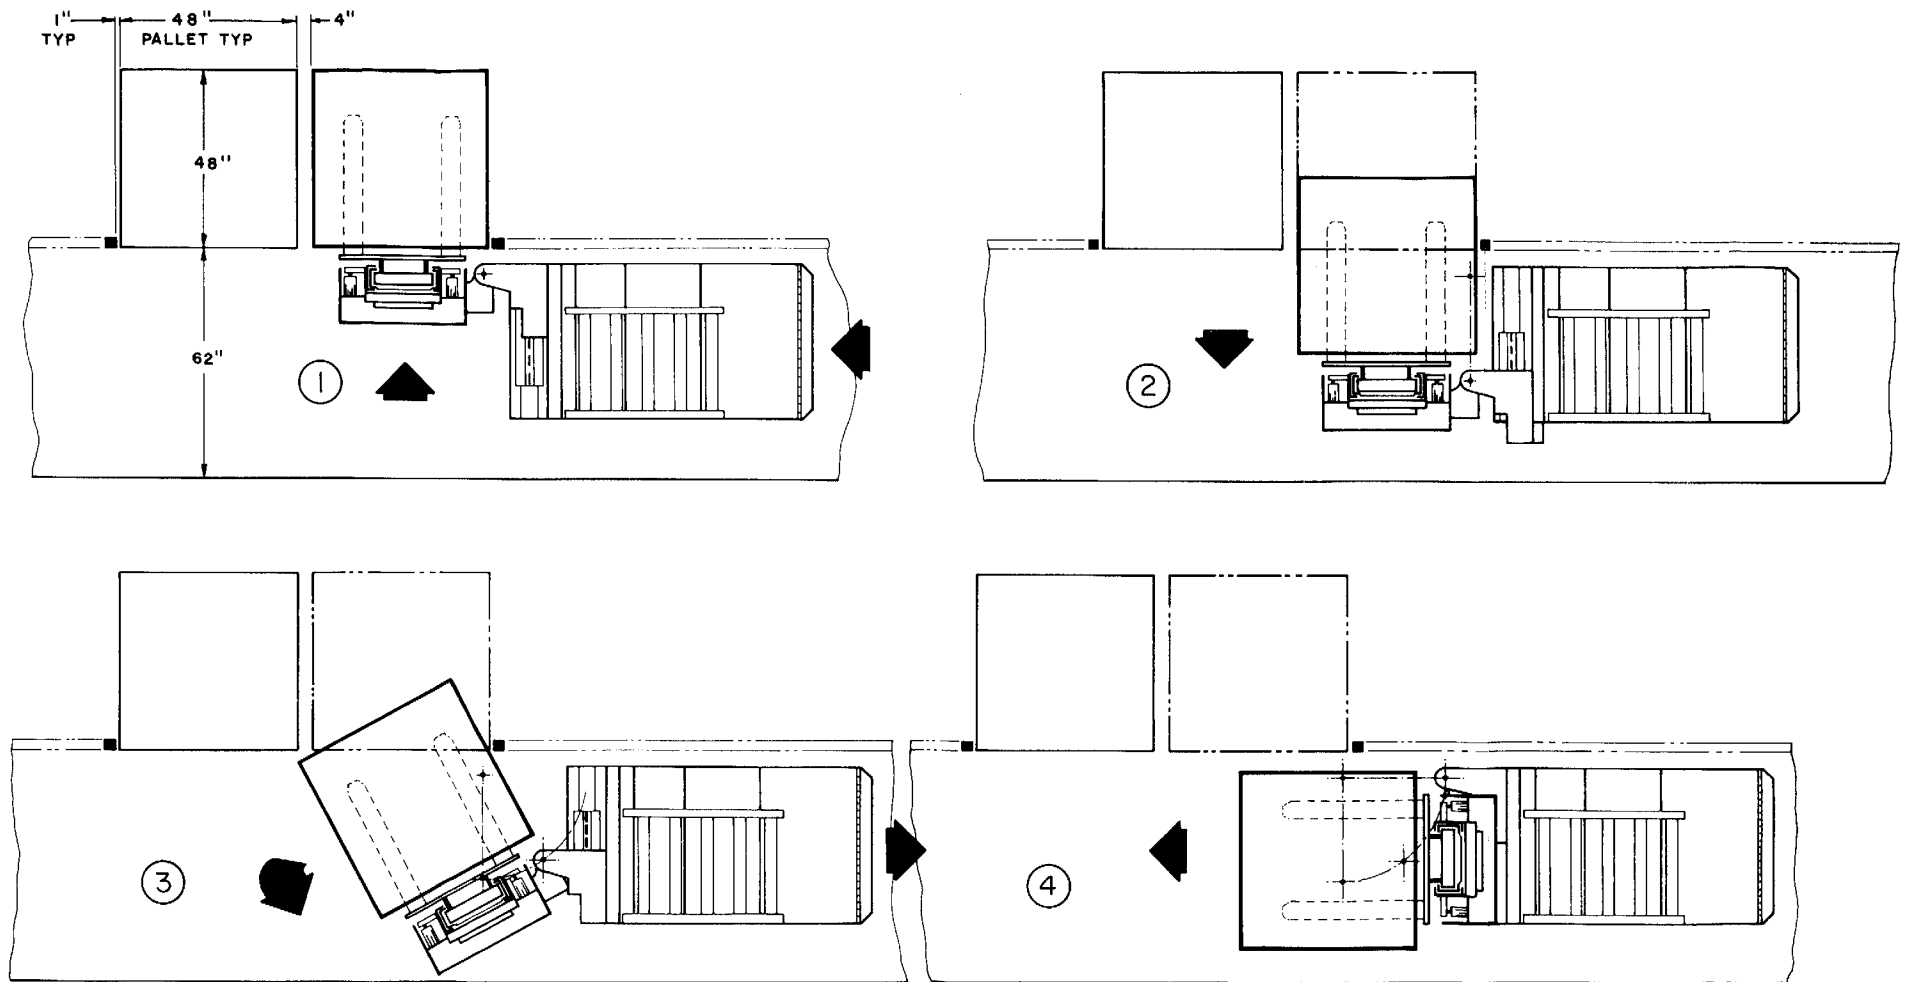

Figure 1-17.
8. LOAD RETRIEVAL: Once the forks are in the pallet, raise the load approximately 2 inches (rearward mast tilt may be used here) to clear the rack horizontal members. Start to shift the loaded mast to the left with the truck traveling in reverse at a creep (slow) speed, utilizing all of the left hand shift motion. The load face nearest the operator should be very close to the vertical rack member in view of the operator, with the truck still moving in a reverse direction at a creep (slow) speed while performing the function described in item 6 above. When the load is partially shifted to the right and at an angle of approximately 45 degrees (clearing the adjacent load in the rack beam length), continued shifting and pivoting is described in step 6, stop the right hand shift motion (Figure 1-17).